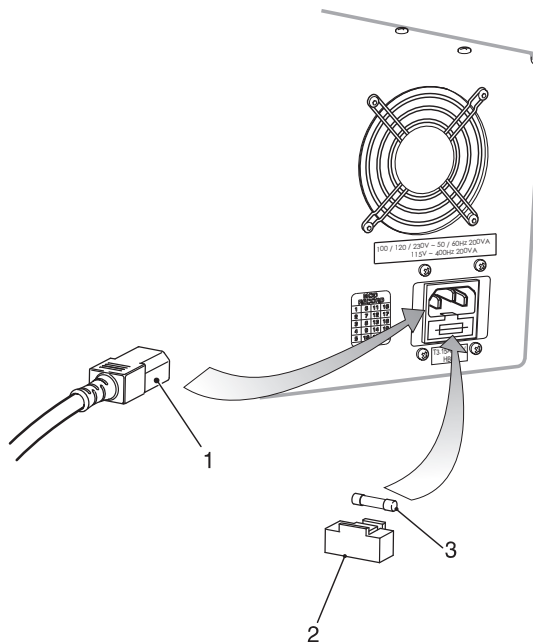

FIGURE 4-1 FUSE REPLACEMENT
4.5 Fuse Replacement (Fig 4-1)